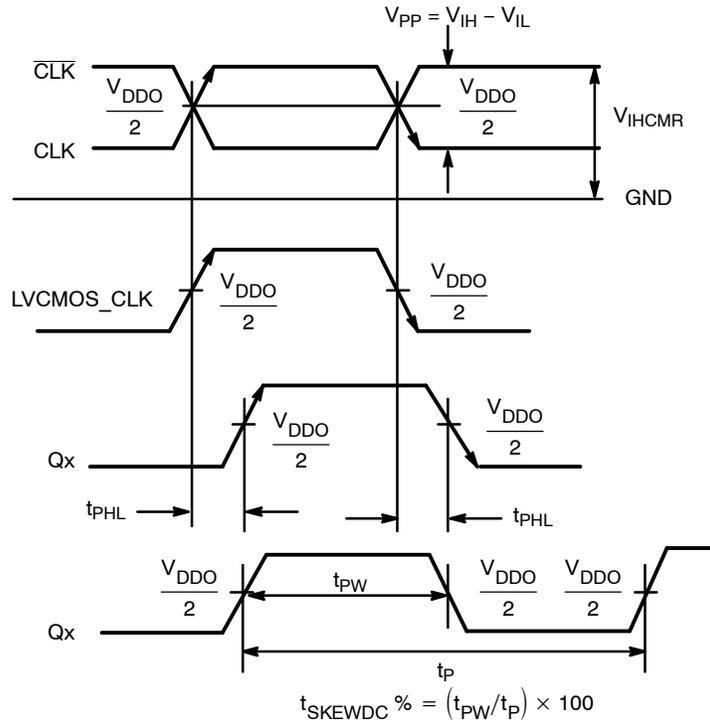

Figure 4. AC Reference Measurement
5. Outputs loaded with 50Ω to V_{TT} ($V_{DDO}/2$); see Figure 5. CLOCK input with 50% duty cycle. Measured at CLK/ \overline{CLK} crosspoint to Qx $V_{DDO}/2$, CLK $V_{DDO}/2$ to Qx $V_{DDO}/2$; see Figure 4.